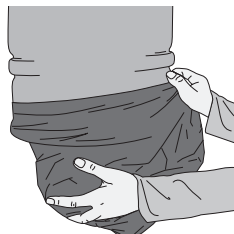

figure 19
2. To clean the permanent filter (**figure 19**):